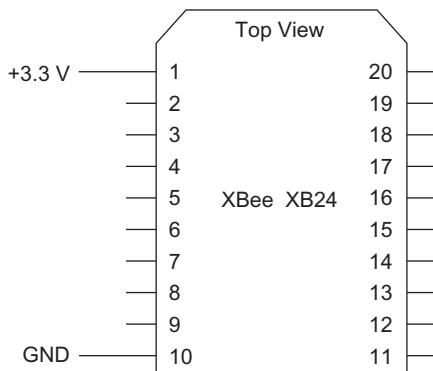

FIGURE 18.1 Power and ground connections for any XBee modules on a solderless breadboard for this experiment. Remove any other connections.
Step 2. Place one XBee module in an adapter on your solderless breadboard. Place your second XBee module in the USB-to-XBee adapter connected to your PC. If you have a third XBee module, place it in a second XBee adapter on the solderless breadboard. For now, the breadboard XBee module or modules require only power and ground, as shown in Figure 18.1. The breadboard modules should not have any other connections.